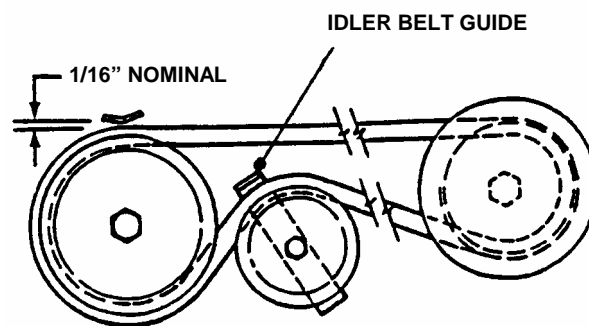

FIGURE 4.15
9. Route belt onto spindle pulley. Make sure belt is inside spindle belt guide and idler belt guide. Route belt as shown in Figure 4.15.
11. Adjust belt guide. See Figure 4.15 for proper belt-to-belt guide clearances.